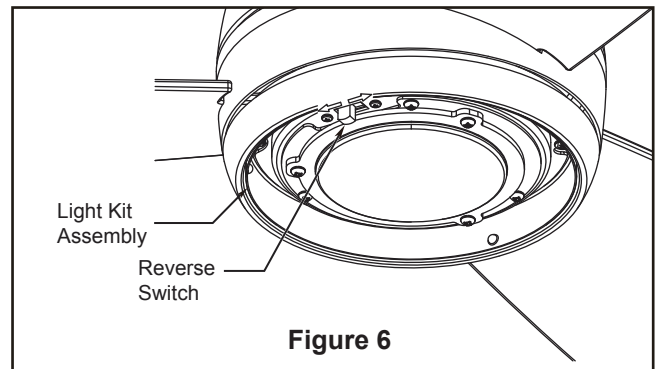

Figure 6
4. Hang the motor assembly as shown. (Figure 6)
6. Remove the three screws in the upper LED plate assembly and retain the screws for later. (Figure 6)
- ### 6. If airflow is desired in the opposite direction, turn the fan off and wait for the blades to stop turning. Remove glass or plastic cap from light kit, then slide the reverse switch inside the light kit assembly to the opposite position reinstall glass or plastic cap. Turn fan on again. (Figure 6)